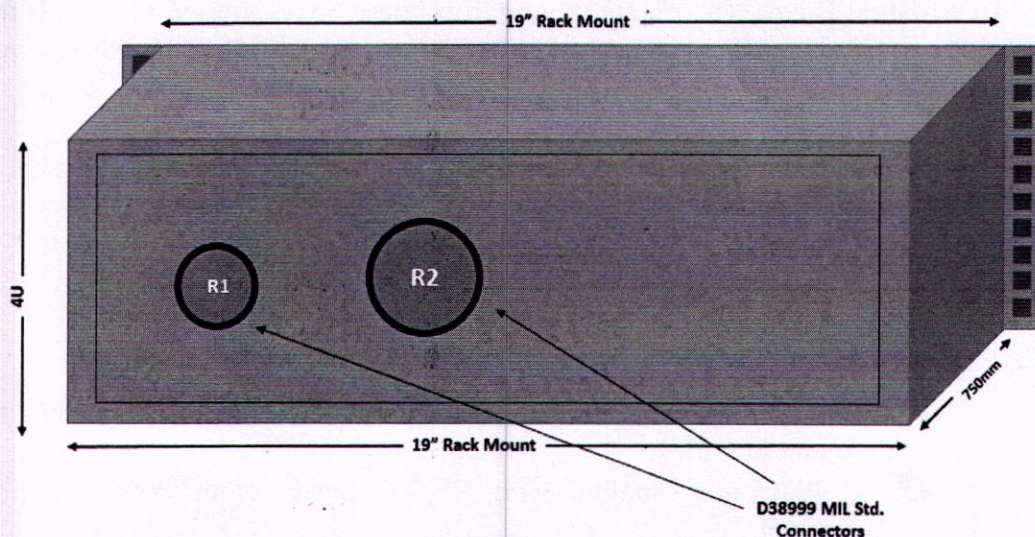

Figure 2: Rear panel of PDU1
- Rear panel shall be installed with D38999 connectors as shown in **Figure 2**.